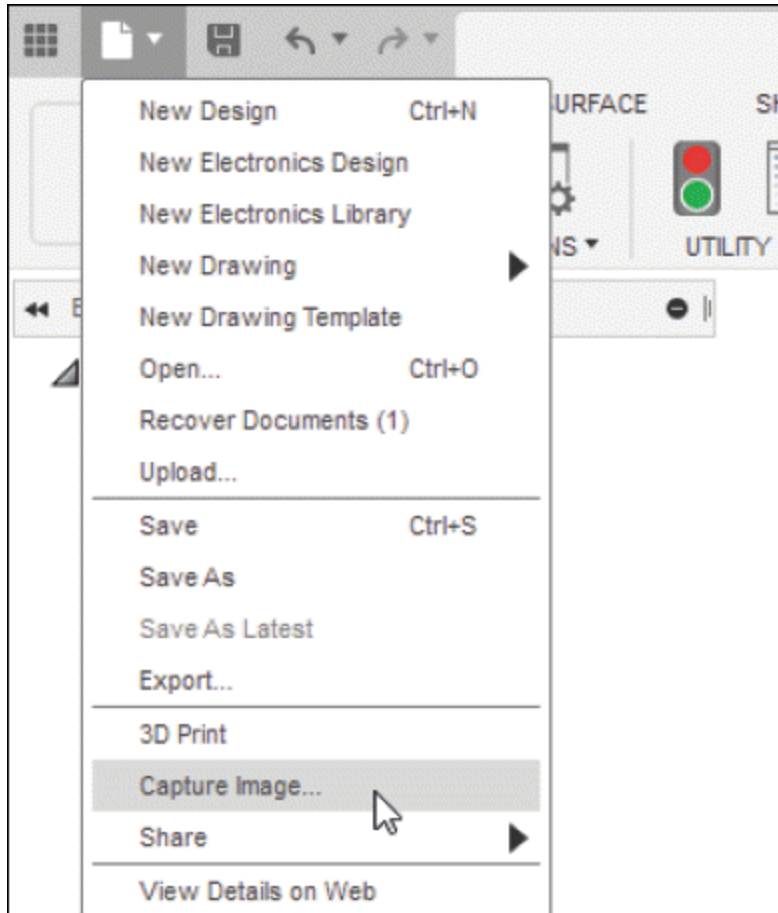
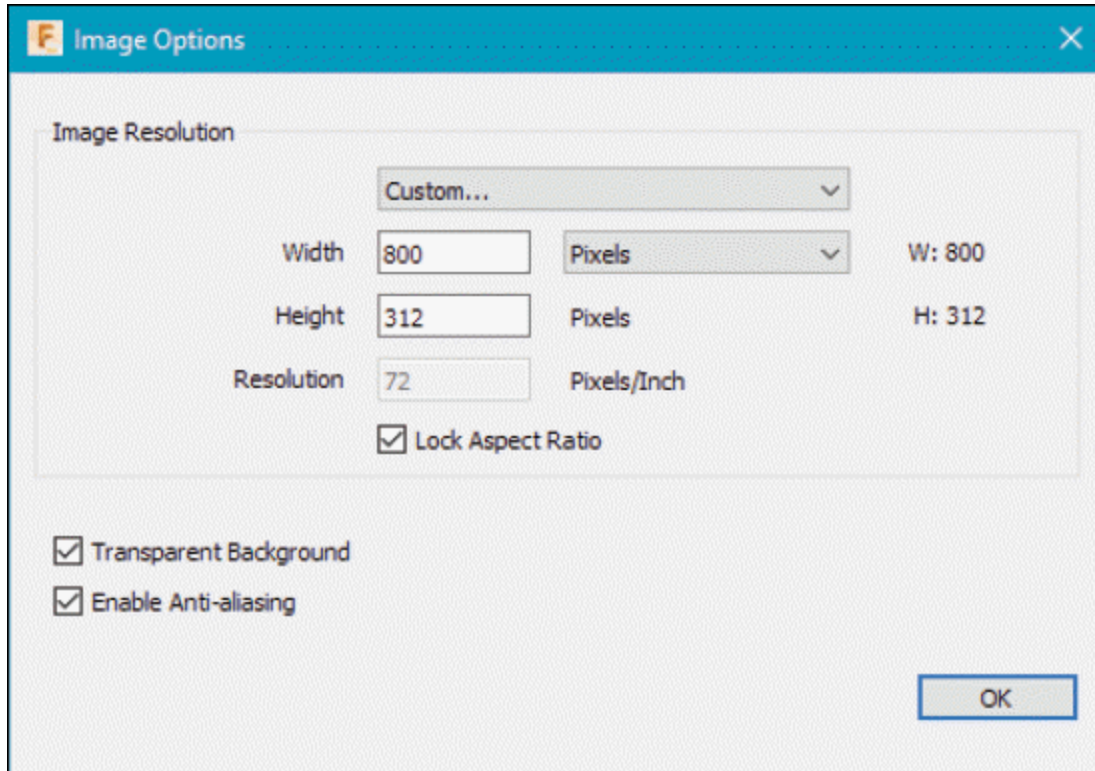

Figure-68. Capture Image tool
Figure-69. Image Options dialog box
- Click on the **Capture Image** tool from **File** menu; refer to Figure-68. The **Image Options** dialog box will be displayed; refer to Figure-69.